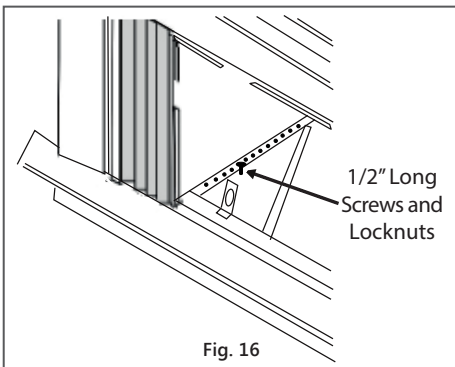

Fig. 16
- Install support brackets (with sill angle brackets attached) to correct hole in bottom of cabinet as shown in Fig. 16.